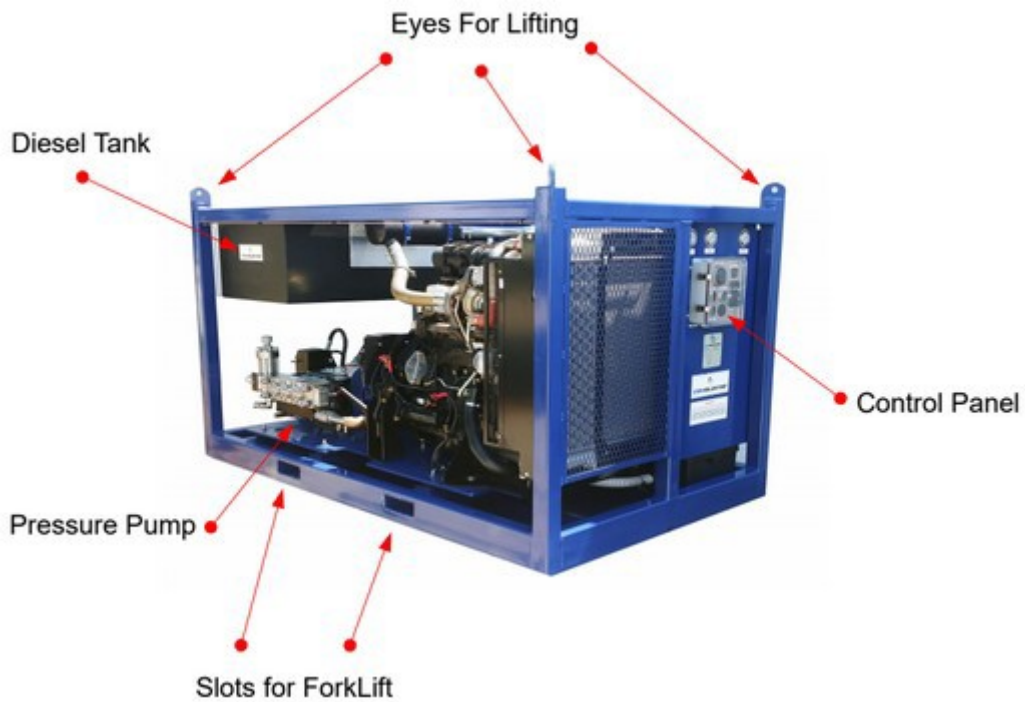

Figure 2.1 – General Features
5. Check fuel tank (See **Figure 2.1**) for proper diesel fuel level. Add diesel fuel (ASTM Grade No. 1-D or 2-D, or EN 590) if necessary.